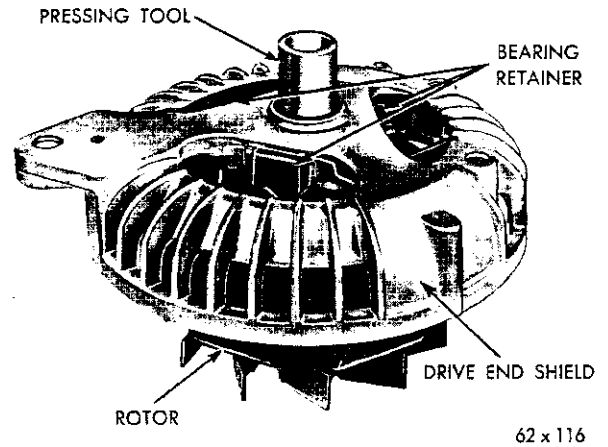

Fig. 75—Installing the Drive End Shield and Bearing
(6) Insert the drive end bearing in the drive end shield with the shielded side of bearing toward the rotor and install the bearing retainer plate to hold the bearing in place.
(7) Position the bearing and drive end shield on the rotor shaft and, while supporting the base of the rotor shaft, press the bearing and shield into position on the rotor shaft with the arbor press and Tool C-3769 (Fig. 75).